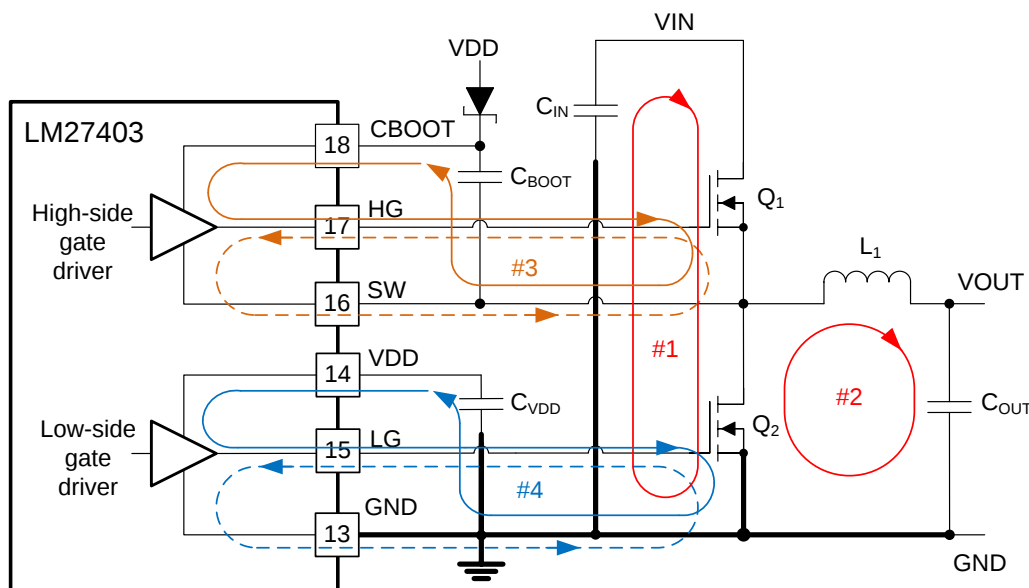

图 51. DC-DC Regulator Ground System With Power Stage and Gate Drive Circuit Switching Loops
Proper PCB design and layout is important in a high current, fast switching circuit (with high current and voltage slew rates) to assure appropriate device operation and design robustness. As expected, certain issues must be considered before designing a PCB layout using the LM27403. The main switching loop of the power stage is denoted by #1 in Figure 51. The topological architecture of a buck converter means that particularly high di/dt current will flow in loop #1, and it becomes mandatory to reduce the parasitic inductance of this loop by minimizing its effective loop area. For loop #2 however, the di/dt through inductor L_1 and capacitor C_{OUT} is naturally limited by the inductor. Keeping the area of loop #2 small is not nearly as important as that of loop #1. Also important are the gate drive loops of the low-side and high-side MOSFETs, denoted by #3 and #4, respectively, in Figure 51.
- Loop #1: The most important loop to minimize the area of is the path from the input capacitor(s) through the high- and low-side MOSFETs, and back to the capacitor(s) through the ground connection. Connect the input capacitor(s) negative terminal close to the source of the low-side MOSFET (at ground). Similarly, connect the input capacitor(s) positive terminal close to the drain of the high-side MOSFET (at VIN). Refer to loop #1 of Figure 51.
- Loop #2. The second important loop is the path from the low-side MOSFET through inductor and output capacitor(s), and back to source of the low-side MOSFET through ground. Connect source of the low-side MOSFET and negative terminal of the output capacitor(s) at ground as close as possible. Refer to loop #2 of 图 51.
- 5. The SW pin connects to the switch node of the power conversion stage, and it acts as the return path for the high-side gate driver. The parasitic inductance inherent to loop #1 in 图 51 and the output capacitance (C_{OSS}) of both power MOSFETs form a resonant circuit that induces high frequency (>100 MHz) ringing on the SW node. The voltage peak of this ringing, if not controlled, can be significantly higher than the input voltage. Ensure that the peak ringing amplitude does not exceed the absolute maximum rating limit for the SW pin. In many cases, a series resistor and capacitor snubber network connected from the SW node to GND damps the ringing and decreases the peak amplitude. Provide provisions for snubber network components in the printed circuit board layout. If testing reveals that the ringing amplitude at the SW pin is excessive, then include snubber components.
- Loop #3: high-side MOSFET, Q_1 . During the high-side MOSFET turn on, high current flows from the boot capacitor through the gate driver and high-side MOSFET, and back to negative terminal of the boot capacitor through the SW connection. Conversely, to turn off the high-side MOSFET, high current flows from gate of the high-side MOSFET through the gate driver and SW, and back to source of the high-side MOSFET through the SW trace. Refer to loop #3 of 图 51.
- Loop #4: low-side MOSFET, Q_2 . During the low-side MOSFET turn on, high current flows from VDD decoupling capacitor through the gate driver and low-side MOSFET, and back to negative terminal of the capacitor through ground. Conversely, to turn off the low-side MOSFET, high current flows from gate of the low-side MOSFET through the gate driver and GND, and back to source of the low-side MOSFET through ground. Refer to loop #4 of 图 51.